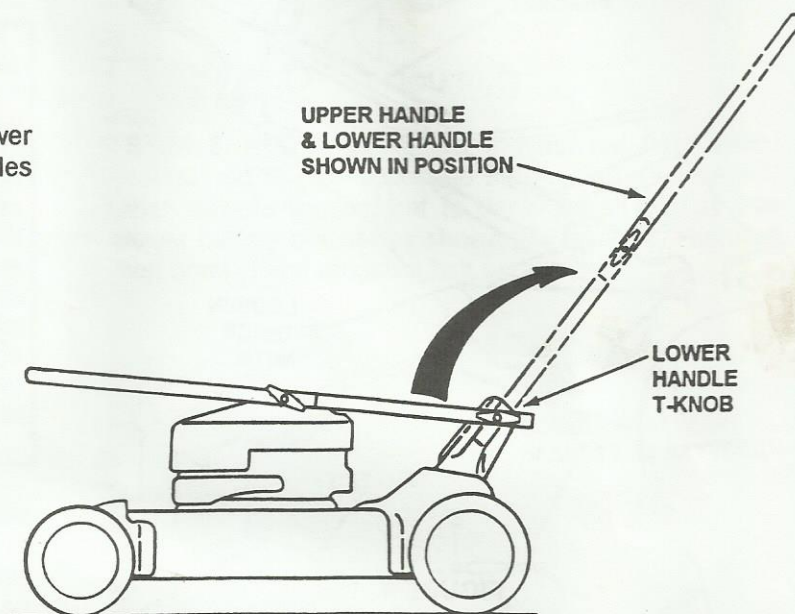

FIGURE 3
STEP 3: Raise upper and lower handle until it seats into position in the lower handle brackets. Securely tighten lower handle T-Knobs on both sides. See Figure 3.